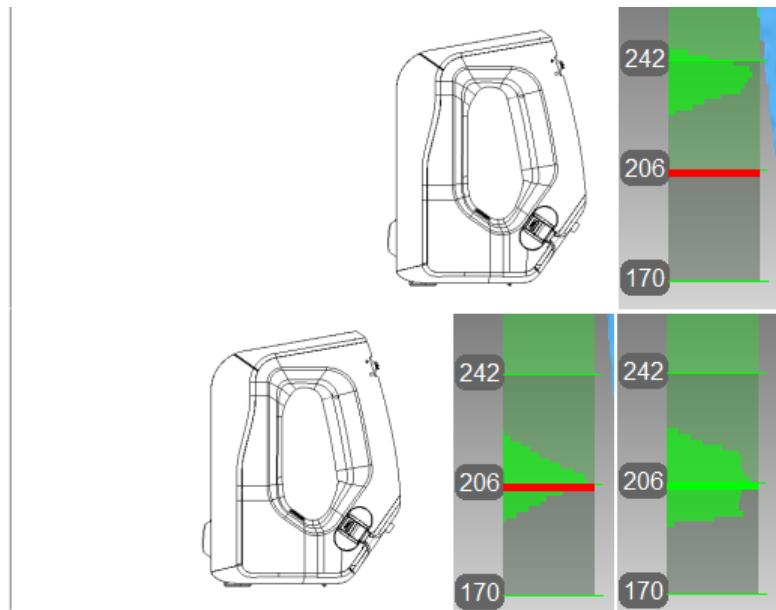

Figure 153: Artec Spider scanner's position and corresponding distance on the range meter.
7. Move the scanner smoothly toward the flat surface such that the histogram peak coincides with the red mark on the range meter (see *Figure 153*).